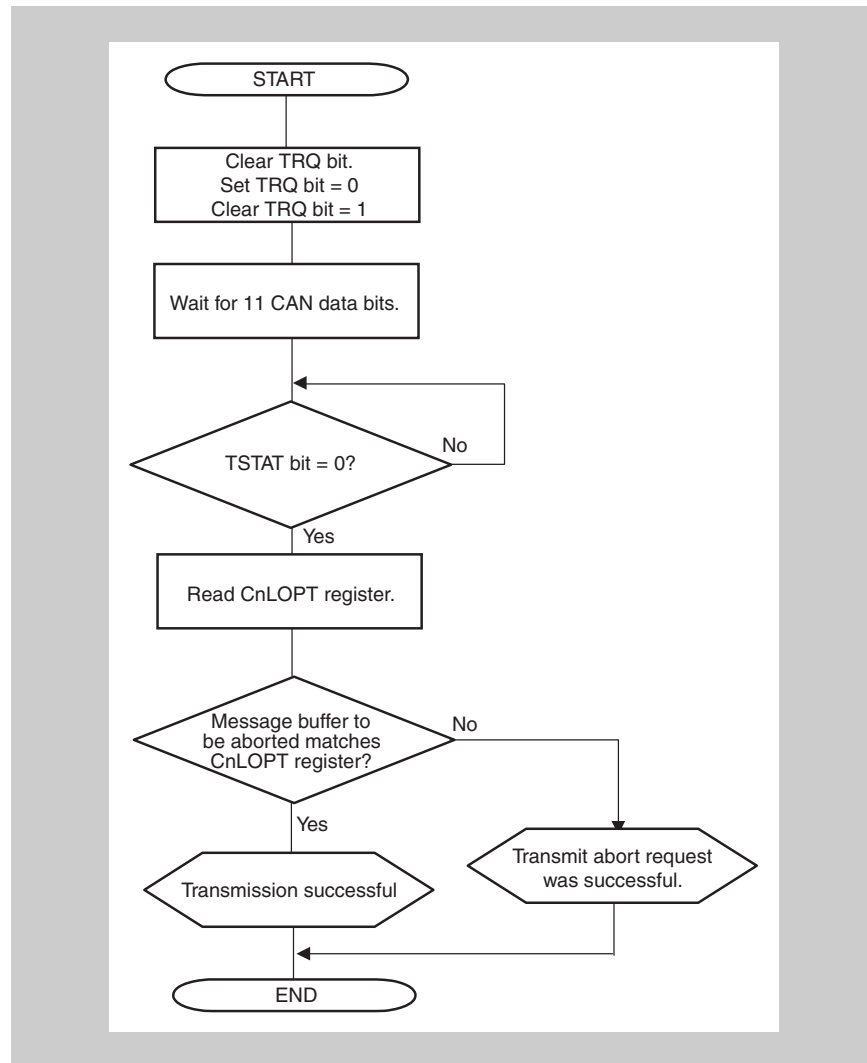
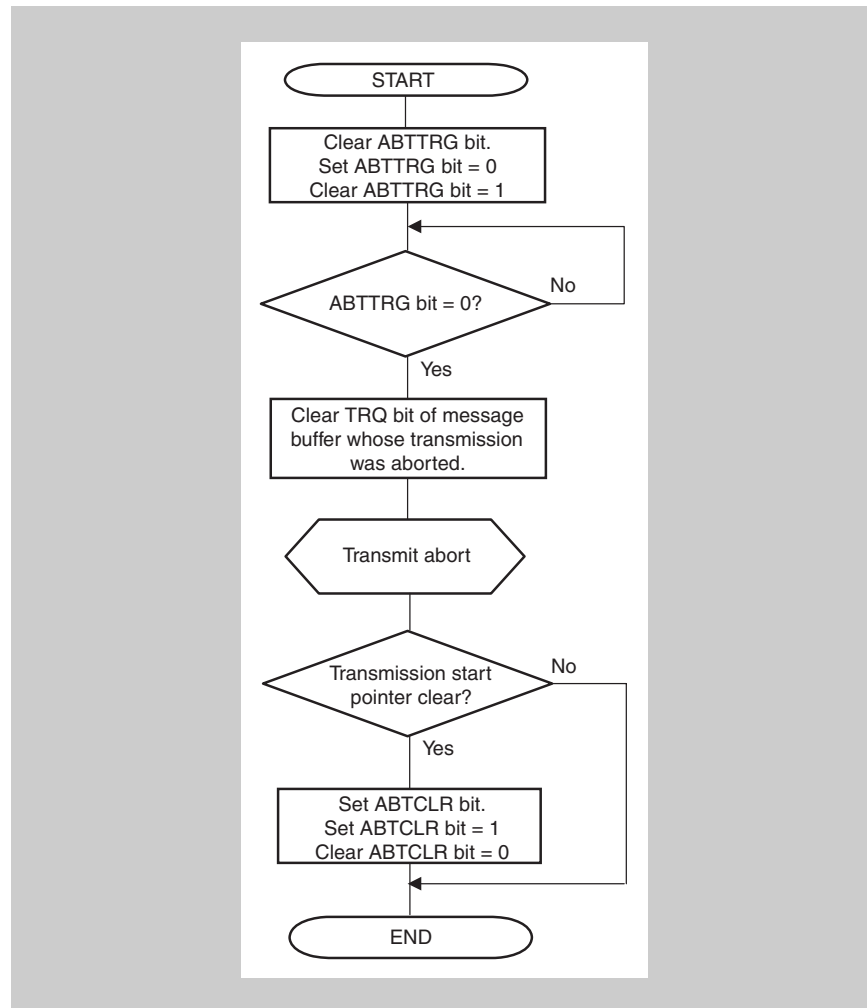
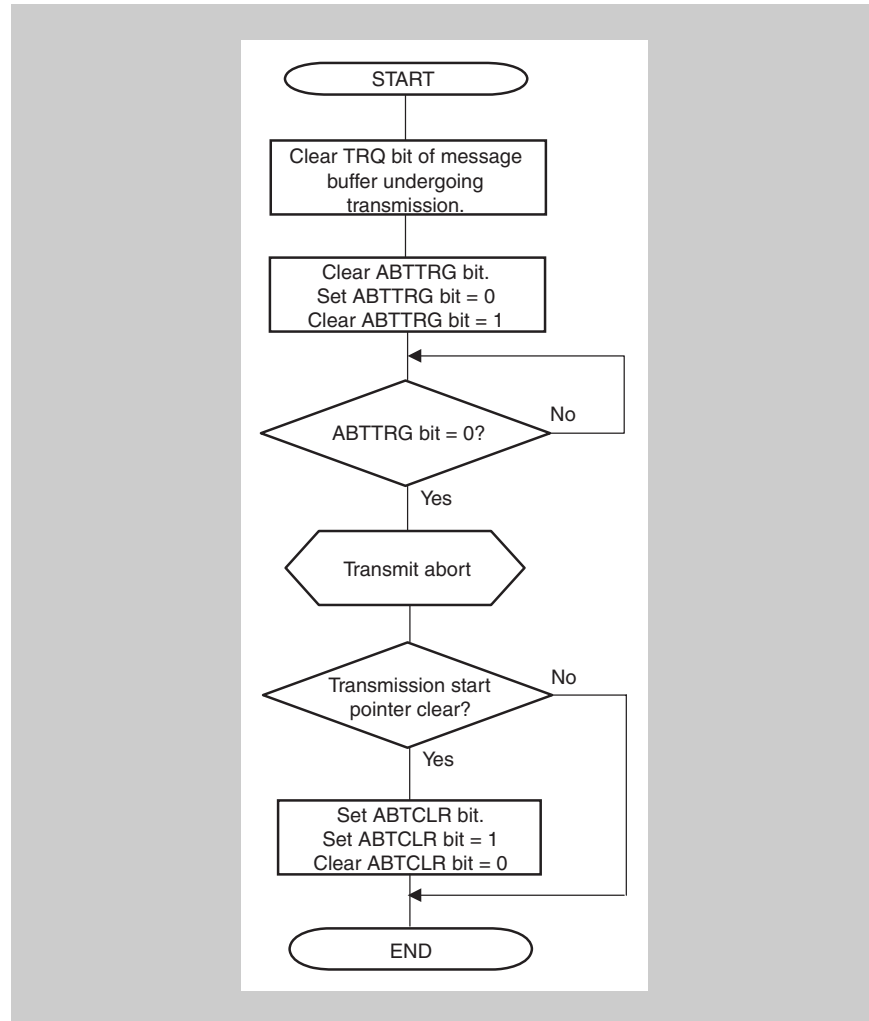

Figure 19-43 Transmission abort processing (normal operation mode)
Figure 19-44 Transmission abort processing (normal operation mode with ABT)
Figure 19-45 Transmission request abort processing (normal operation mode with ABT)
Figure 19-44 shows the processing to skip resumption of transmitting a message that was stopped when transmission of an ABT message buffer was aborted.
2. Make a CAN sleep mode/CAN stop mode transition request after the ABTTRG bit is cleared following the procedure shown in *Figure 19-44* or *Figure 19-45*. When clearing a transmission request in an area other than the ABT area, follow the procedure shown in *Figure 19-43 on page 754*.
Figure 19-45 shows the processing to not skip resumption of transmitting a message that was stopped when transmission of an ABT message buffer was aborted.
2. Make a CAN sleep mode/CAN stop mode request after the ABTTRG bit is cleared following the procedure shown in *Figure 19-44* or *Figure 19-45*. When clearing a transmission request in an area other than the ABT area, follow the procedure shown in *Figure 19-43* on page 754.
**Caution** To abort transmission before making a request for the CAN sleep mode, perform processing according to *Figure 19-43* on page 754 and *Figure 19-44* on page 755.